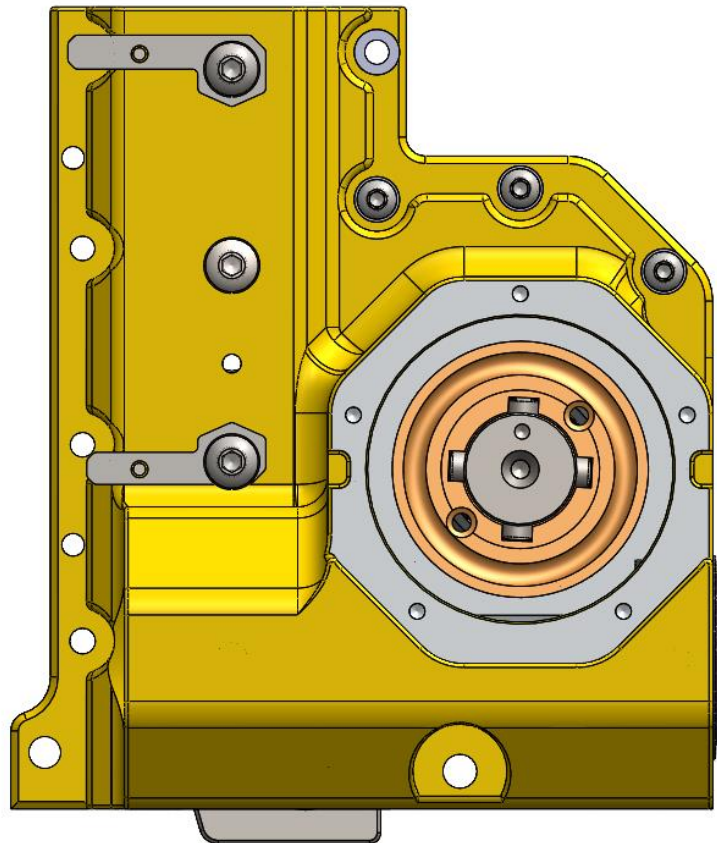

Figure 13
- s. Before starting this step, ensure that the gear rack (1-4/4) is fully retracted as shown in Figure 13. (If you try to assemble the next step with the rack out of this position, the worm gear will not have the ability to rotate during the worm shaft assembly and gear teeth will be severely damaged.)